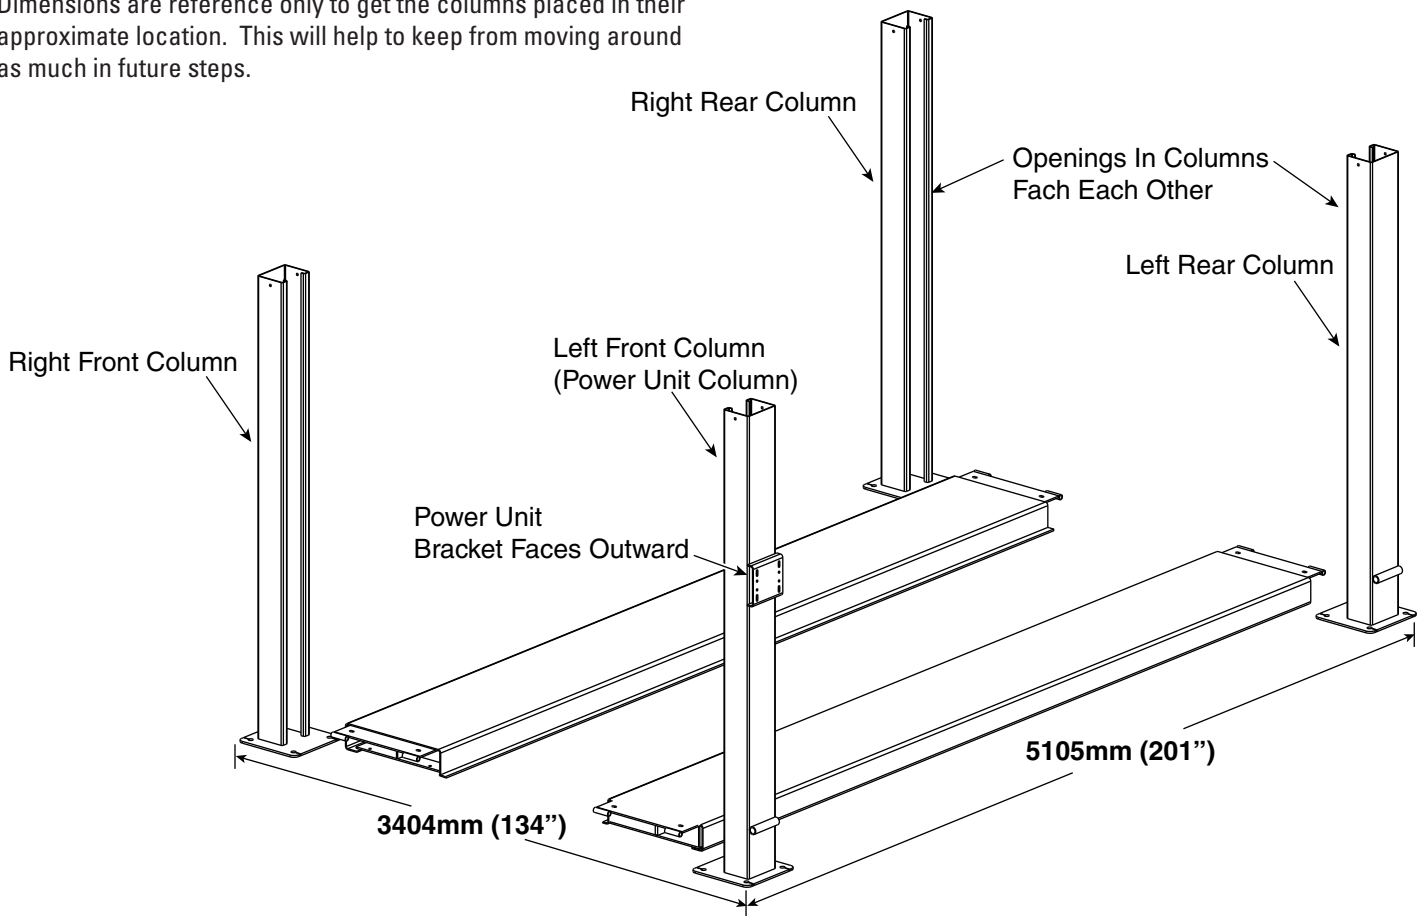

Fig. 3
- B.) Place runways in desired location according to Fig. 3.
- A.) Place columns around runways as shown, Fig. 3. NOTE: Dimensions are reference only to get the columns placed in their approximate location. This will help to keep from moving around as much in future steps.